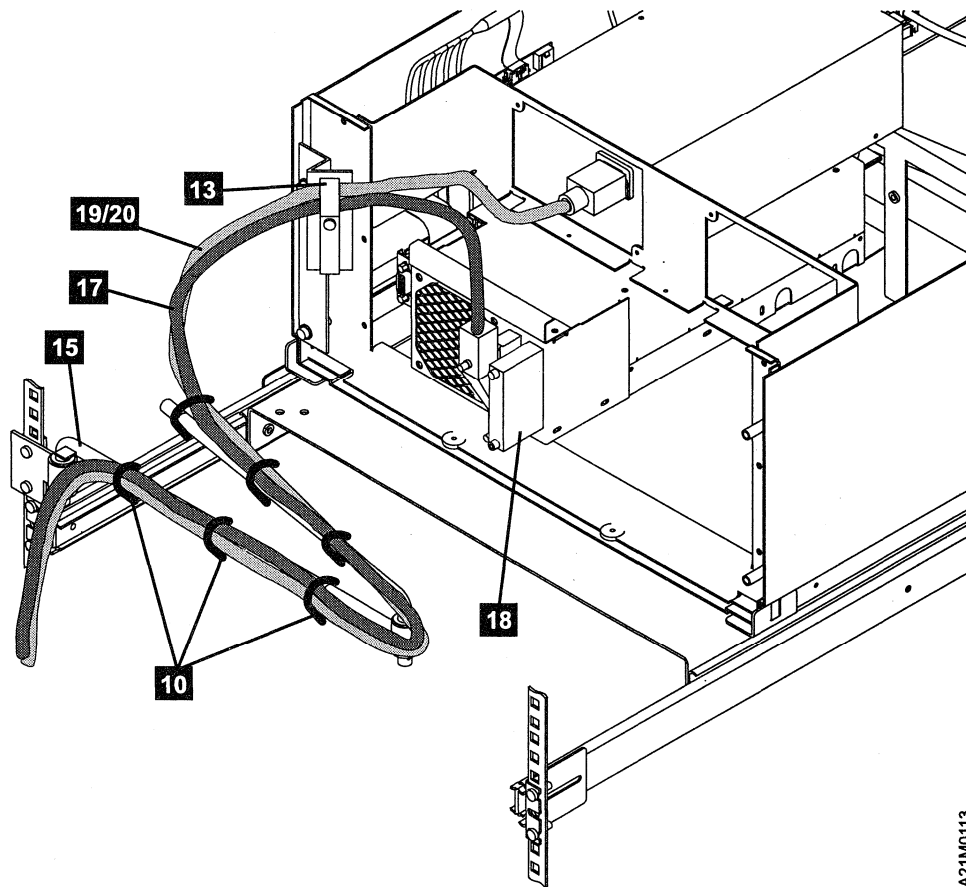

Figure 62. Model C21 cable Routing
- \_\_\_ Step 5. Install the long SCSI host cable **17**. Plug the right-angled plug into the left-most 68-pin socket (see Figure 62) so the cable is looped upward. Route it to the upper wing of the clamp (loop the cable so it